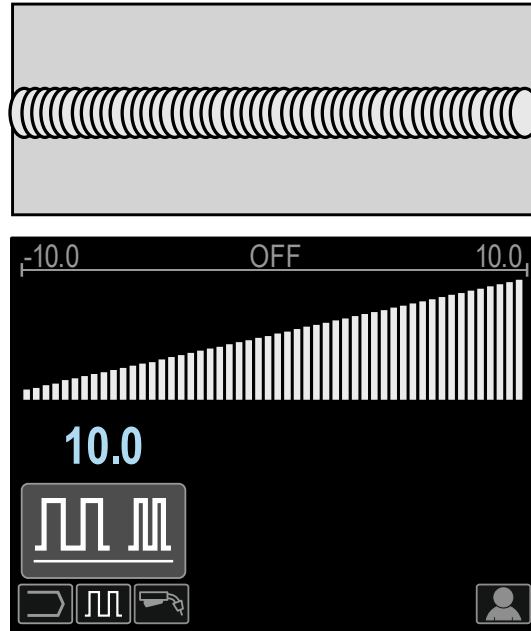

Figure 83
- Frequency greater than 0,0 – Narrow weld and ripple spacing, fast travel speed. Figure 83 shows the spacing weld when the frequency is "+10".